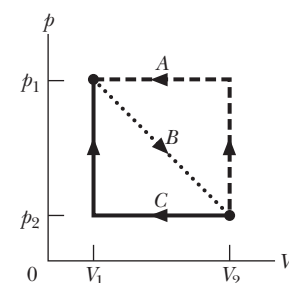

Figure 18-58 Problem 95.
**95** A sample of gas expands from  $V_1 = 1.0 \text{ m}^3$  and  $p_1 = 40 \text{ Pa}$  to  $V_2 = 4.0 \text{ m}^3$  and  $p_2 = 10 \text{ Pa}$  along path  $B$  in the  $p$ - $V$  diagram in Fig. 18-58. It is then compressed back to  $V_1$  along either path  $A$  or path  $C$ . Compute the net work done by the gas for the complete cycle along (a) path  $BA$  and (b) path  $BC$ .